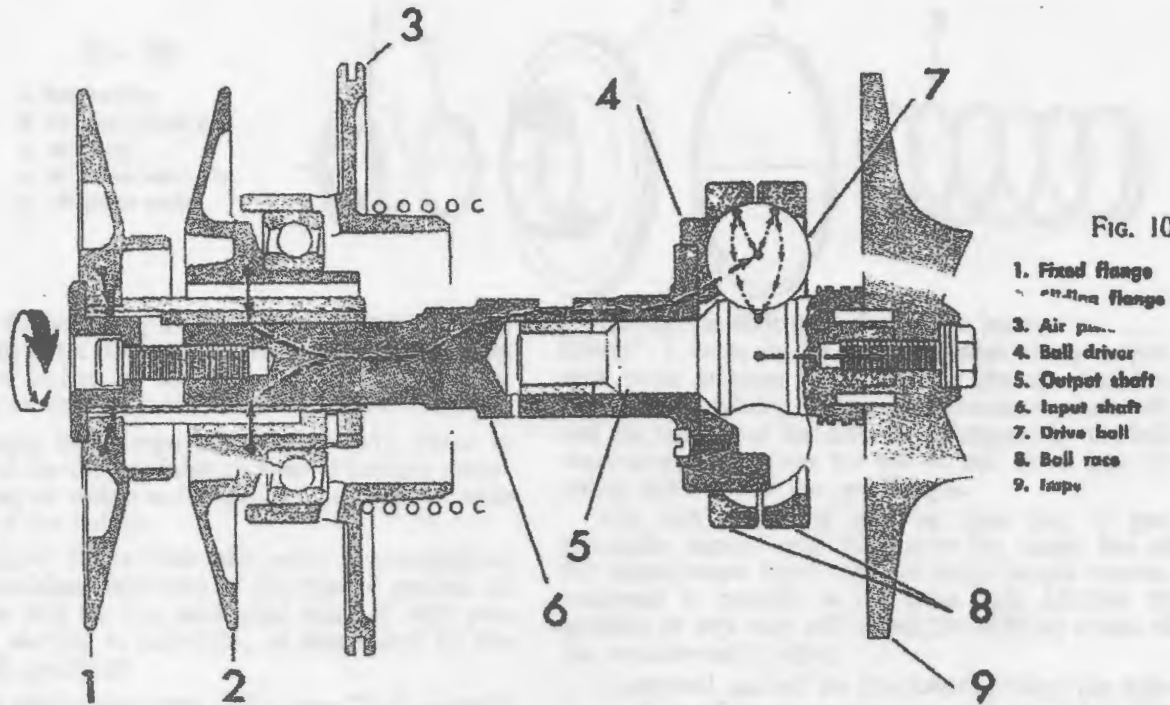

Fig. 106
The power flow through the drive system of the supercharger starts at the variable-ratio pulley assembly (1 and 2, Fig. 106), through the input shaft (6), through the ball driver (4), through the drive balls (7), and to the output shaft (5) and impeller (9).